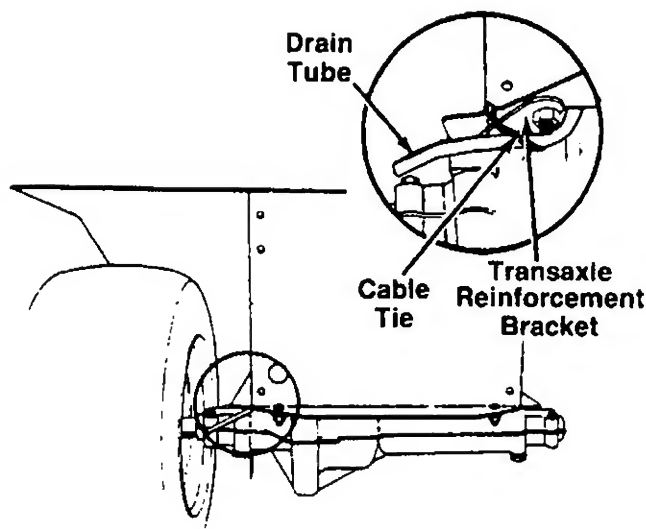

FIGURE 4.
6. Secure the drain tube to the transaxle reinforcement bracket on the left side of the unit, using the cable tie as shown in figure 4. Be certain drain tube is routed away from the wheel rim. Trim excess end of cable tie.